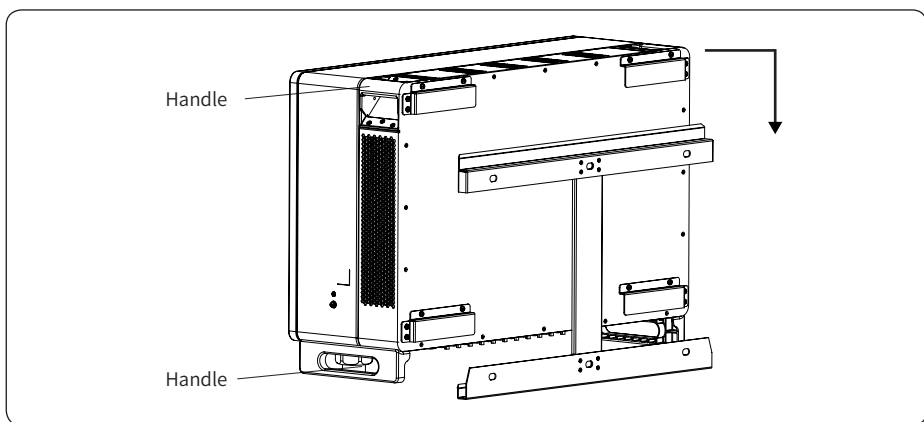

Figure 4-7 Mounting the inverter
4) Lift up the inverter with both hands, hang the back rail on the fixed back bracket carefully, see Figure 4-7 for details: